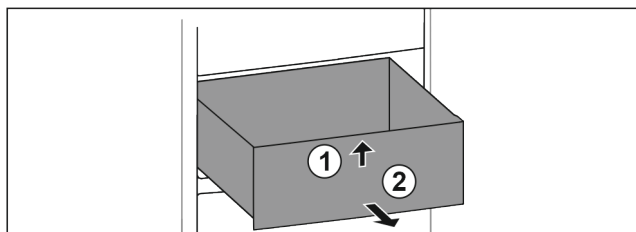

Fig. 21
- ▶ Lift up drawer at the front. Fig. 21 (1)
- ▶ Remove drawer to the front. Fig. 21 (2)